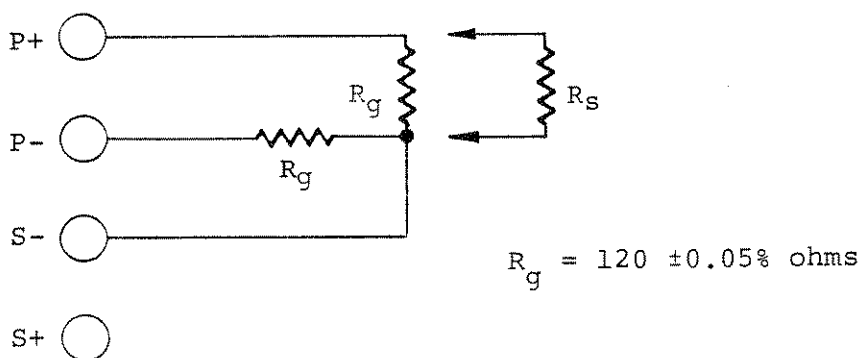

FIGURE 2: CALIBRATION CIRCUIT
- 7.1.1 Set up the 120-ohm half-bridge circuit shown by Figure 2: